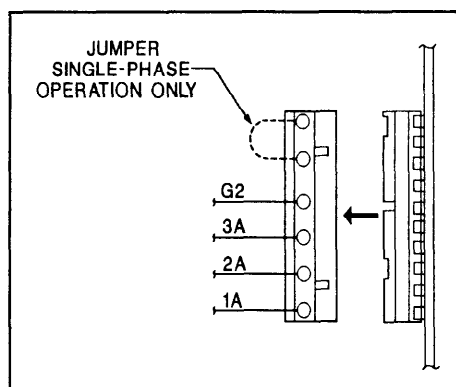

Figure 7.12
4. Disconnect circuit board plug J7 from its receptacle on the circuit board (see Figure 7.12).